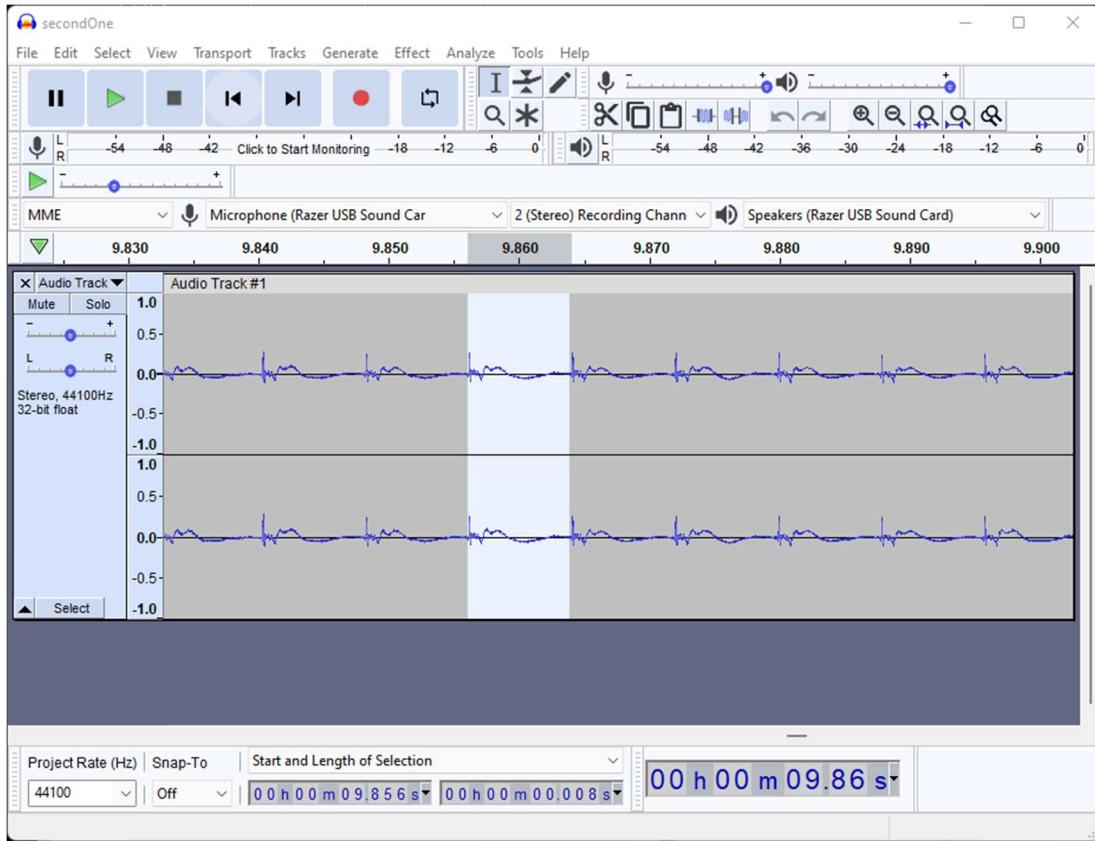

Figure 2: Recording of Motor 1 at 16.0 volts open and enlarged in Audacity
- a. See figure 2
pressure increases the load on the motor and enables a higher current draw. A higher current would be an additional independent variable which would be no good for this experiment. Lastly, there is no significant uncertainty in this lab as the current and voltage readings were checked by both the built-in readings on the variable power supply but also a multimeter. The timing of the RPM is where most of the uncertainty in any physics lab is found as there is often a large degree of human error involved. However, in this lab, the audio was recorded and then the data was extrapolated to a very accurate degree which gave solid data with minimal uncertainty (see figure 2).